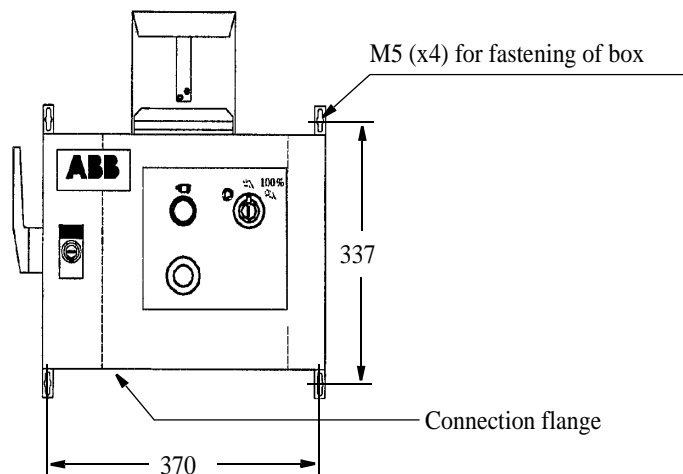

Figure 16 Operator's panel mounted in a box (all dimensions in mm).
- 183 External, mounted in a box. (See Figure 16)